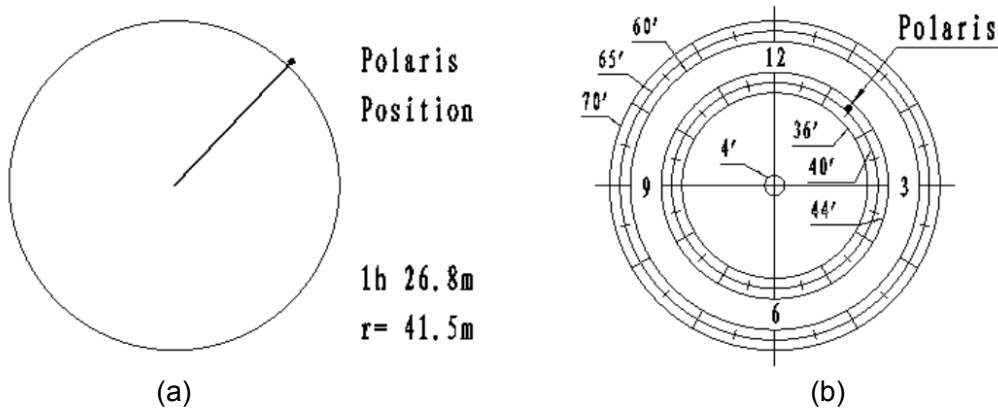

Figure 15
- (1) Turn on the mount power by pressing the **On/Off** switch on the R.A. unit. After “**GPS OK**” is shown in the upper right corner of the HC, the LCD will display the Polaris Position as shown in Figure 15 (a). If you are practicing inside or when there is no GPS signal, you can view this chart by pressing the **MENU** button, then select “**Align**” and “**Polaris Position**”. For example, on May 30, 2010, 20:00:00 in Boston, US (Lat N42°30’32” and Long W71°08’50”), 300 min behind UT, the Polaris Position is 1hr 26.8m and $r = 41.5m$, as shown in Figure 15 (a).
- (2) Look through the polar scope; make sure the polar scope is not blocked by the DEC axle. The 12 o’clock indicator of the Polar Scope Dial must be positioned on top.
- (3) Follow the **Polar axis adjustment** procedure (**not the hand controller**) to adjust the mount in altitude (latitude) and azimuth (heading) direction and place Polaris in the same position on the Polar Scope Dial as indicated on the HC LCD. In this case, the Polaris will be located at a radius of 41.5’ and an angle of 1 hour 26.8 minute, as shown in Figure 15 (b).